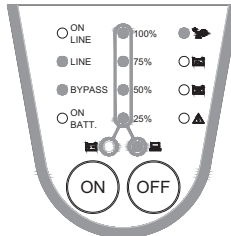

Fig. 4-5 Overload and UPS Transfer to Bypass
- ✓ **OVERLOAD:** If the load exceeds the UPS rating after a limited period, the overload LED will light on and buzzer will continuously beep to alarm users. Users should unplug some uncritical loads to release the overload condition. See Fig. 4-5.